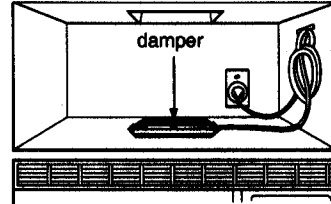

Figure 33
6. **Roof vented installation:** See Figure 33